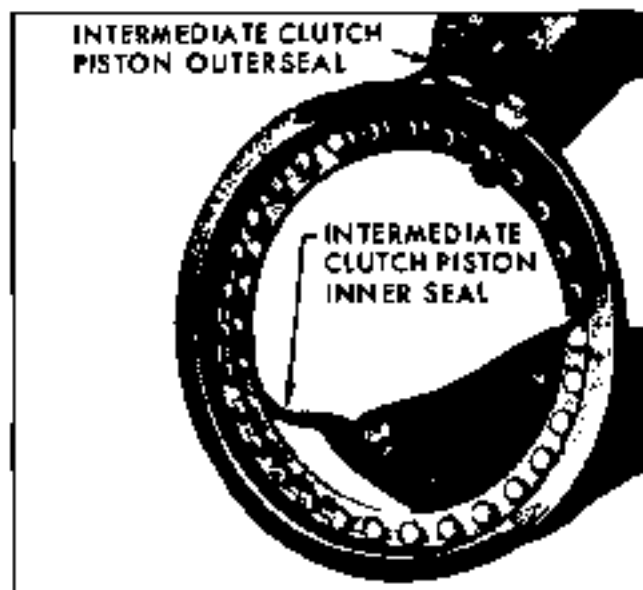

Fig. 7G-62 Installing Seals in Intermediate Clutch Piston
4. Install drive and driven gears into pump body with alignment marks up (Fig. 7G-49).